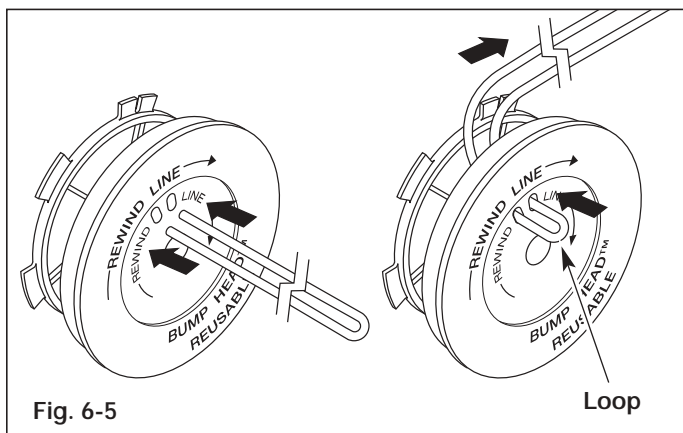

Fig. 6-5
6. Cut approximately 25 feet (7.6 m) of new trimming line, then loop it into two equal lengths. Insert each end of the line through one of the two holes in the inner reel. Pull the line through the inner reel so that the loop is as small as possible (Fig. 6-5).